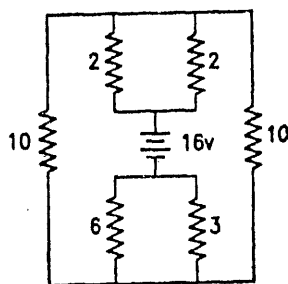

FIG. 1.184 : REFERENCE FIGURE FOR PROBLEM NO. 7
- For the network of Fig. 1.184 determine the current supplied by battery. All resistance are in ohm. [2 A]